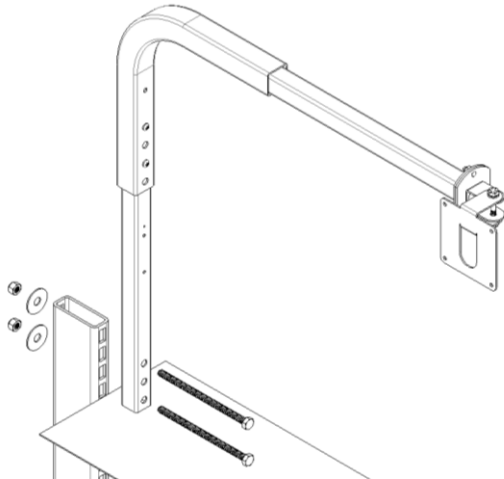

Fig. 5. Mount to Gondola
- Fasten Assembled Mount to Gondola Upright using (2) 5/16-18 Hex Head Bolt. See Fig. 5.